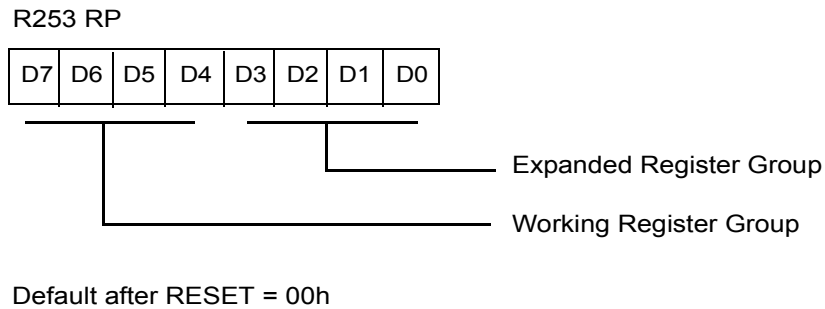

**Figure 22. Program Memory Map**
**Program Memory.** The MCU can address up to 4/8/16 KB of Internal Program Memory (see Figure 22). The first 12 bytes of program memory are reserved for the interrupt vectors. These locations contain six 16-bit vectors that correspond to the six available interrupts. For EPROM mode, byte 12 (000Ch) to address 4095 (0FFFh)/8191 (1FFFh)/16384 (3FFFh), consists of programmable EPROM. After reset, the program counter points at the address 000Ch, which is the starting address of the user program.